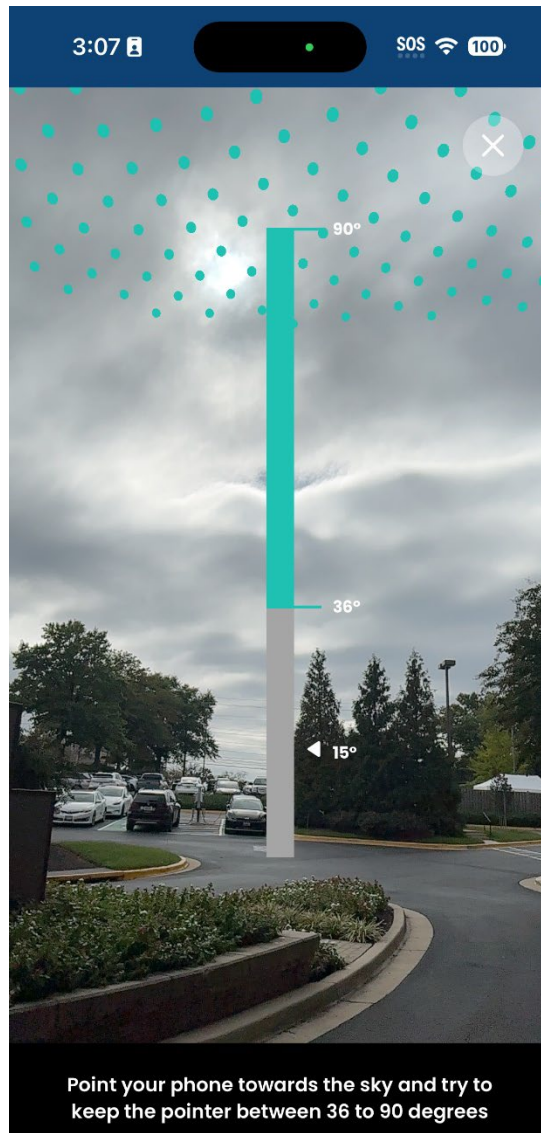

Figure 82: Pointing the phone
5. Hold your phone at the same height as the HL1120-ODU antenna being installed. Point your phone toward the sky at an angle between 36° and 90°. The arrow indicator on the screen (Figure 82) shows the current angle of your phone. Attempt to keep that arrow within the green line.